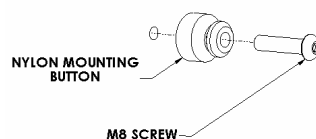
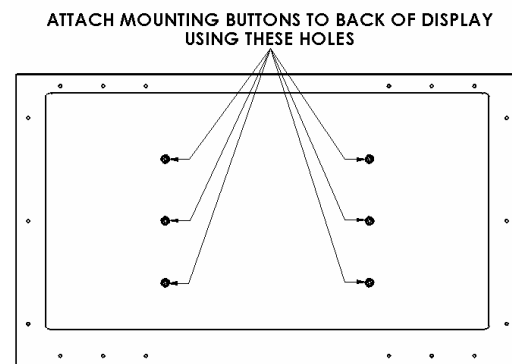

Figure 3
Figure 4
2. Attach Nylon mounting buttons to the display using six M8 screws provided (see Figure 3 & Figure 4).